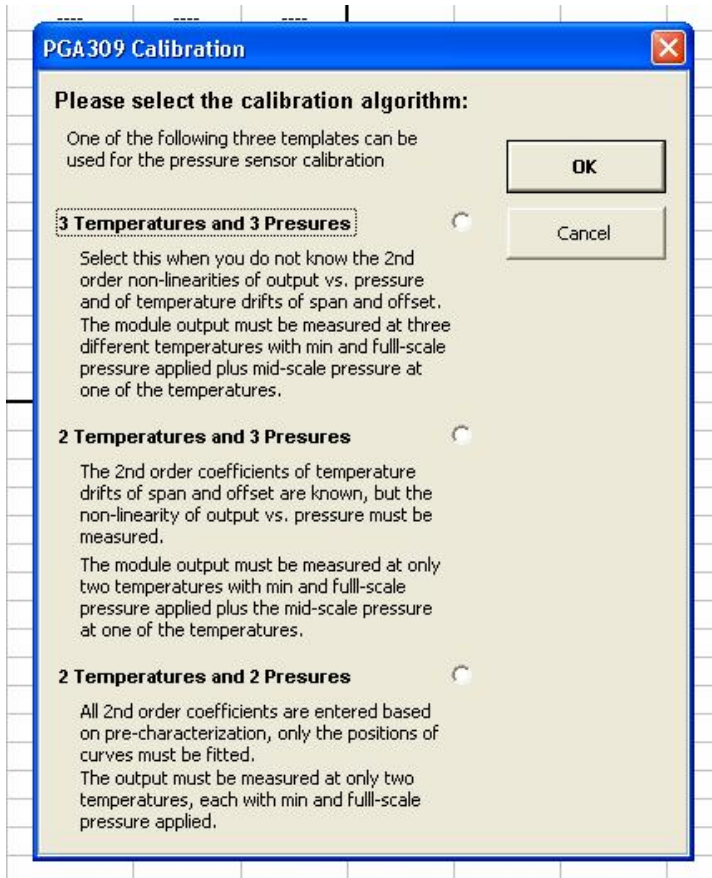

Figure 37: Select Calibration Algorithm Dialog
D) Click "Prepare Calibration Sheet". The dialog box in Figure 37 will appear. Select the appropriate algorithm. The script will copy the right template to the "Sensor Curvefit" Worksheet and open the next page.